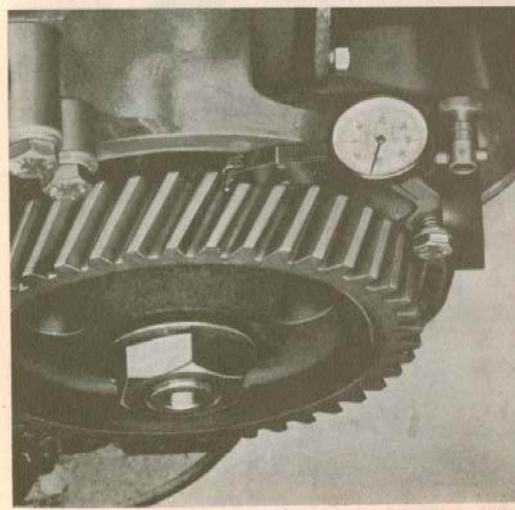

Fig. 1-28. Measuring tooth flank clearance
5. Measure the tooth flank clearance, Fig. 1-28. Also measure the shaft end play, this being determined by the shim behind the camshaft gear. See the specifications for the measurement value. Fit the sleeve on the crankshaft.